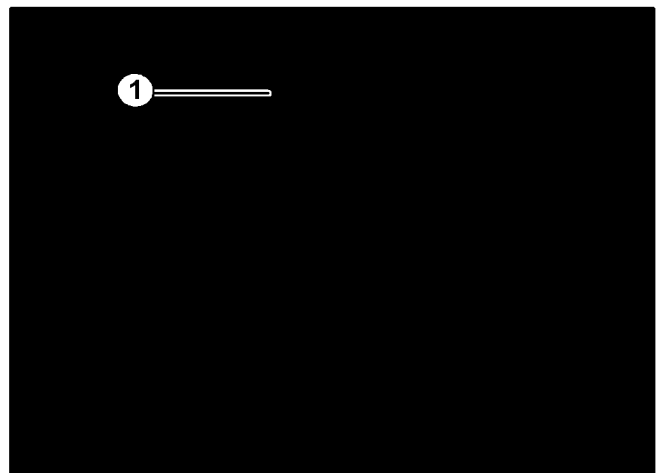

FIGURE 5
3. Connect one end of the spring (from loose parts bag) to the clutch cable and the other end to the arm of the clutch bail on the handle. See Figure 5.